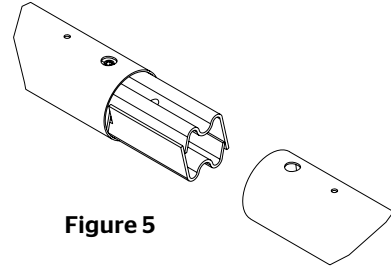

Figure 5
2. Slide tube over connector and line up hole. See Figure 5.